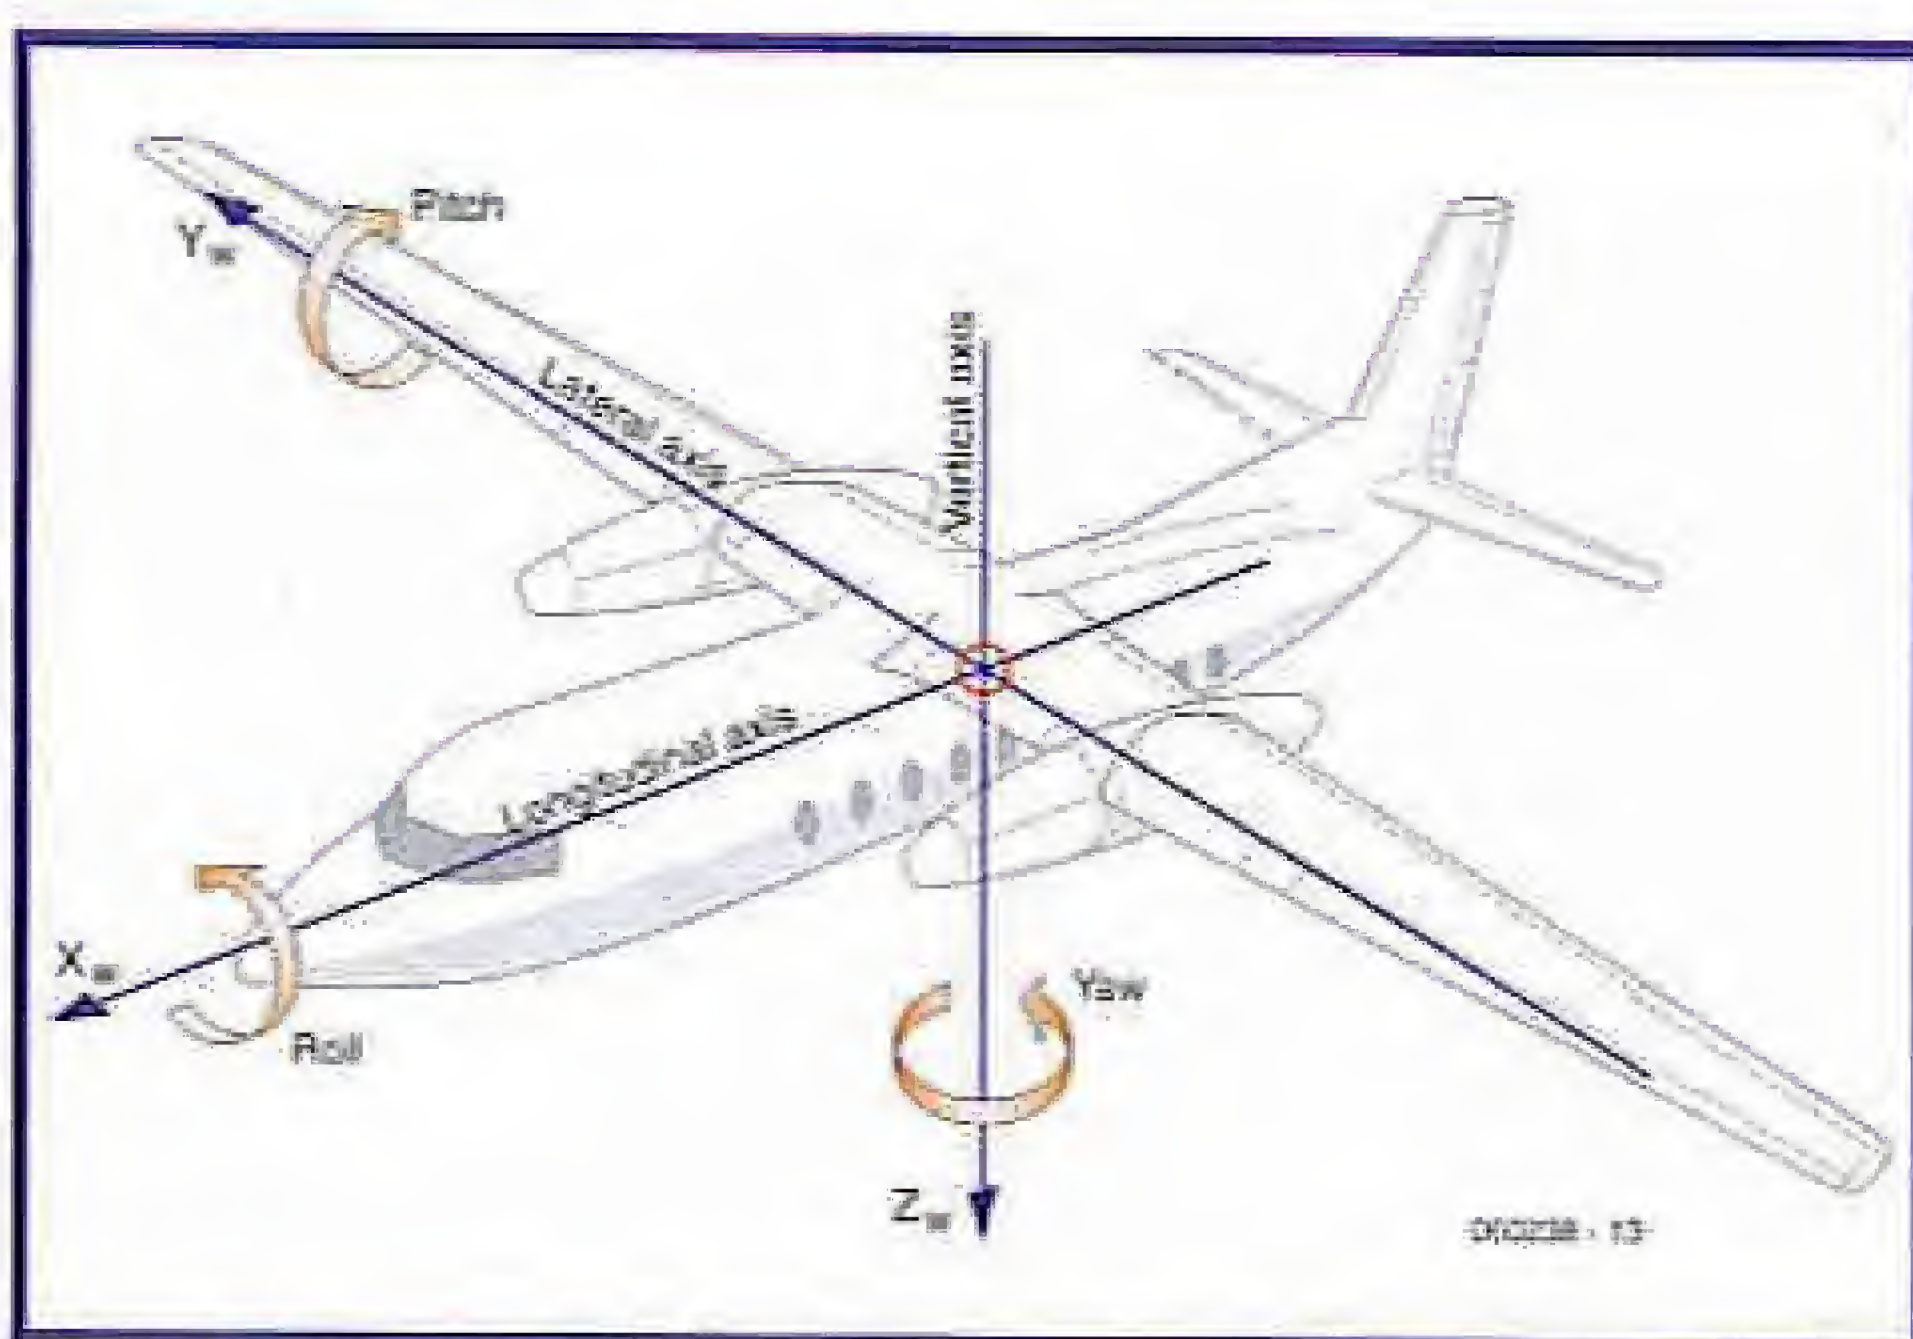

Figure 7.
- Euler angle (Rotation around all three axes: pitch, yaw and roll **Figure 7**)